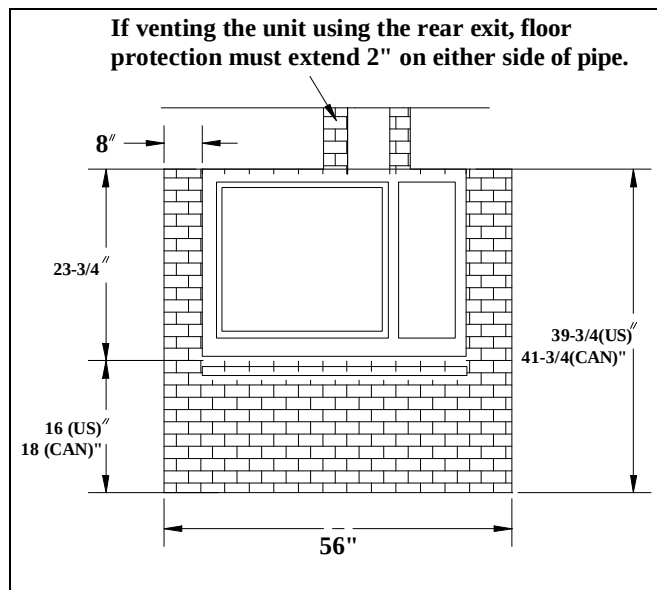

Figure 1 - Hearth Protection for top vent installations
- A non-combustible floor protector that you obtain from your dealer, or any other noncombustible material. A floor protector is any noncombustible surface laid on the floor underneath the stove that extends, 16 inches -US (or 46 cm in Canada) beyond the fuel loading door and 8 inches (20 cm) beyond each side of the cook stove. (See Figure 1) The hearth protection for your Deva 100 must have an R-value of at least 0.89 or be a UL Listed floor protection.